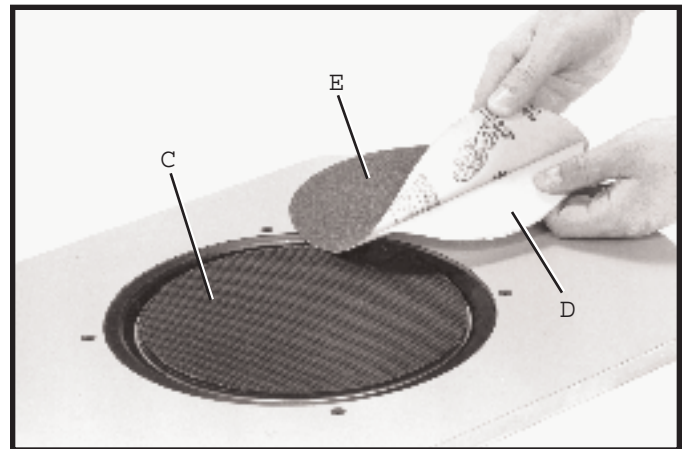

Fig. 6
2. Remove backing (D) Fig. 6, from abrasive disc (E) and press the disc onto transition pad (C).